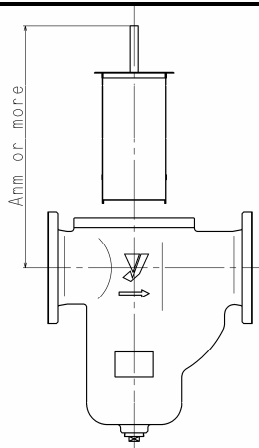

Fig. 5 Space required above the strainer for removal of the screen
- (3) Upon installation, please secure sufficient space as shown in Fig. 5 and 6 for maintenance and inspection (including cleaning of the screen).